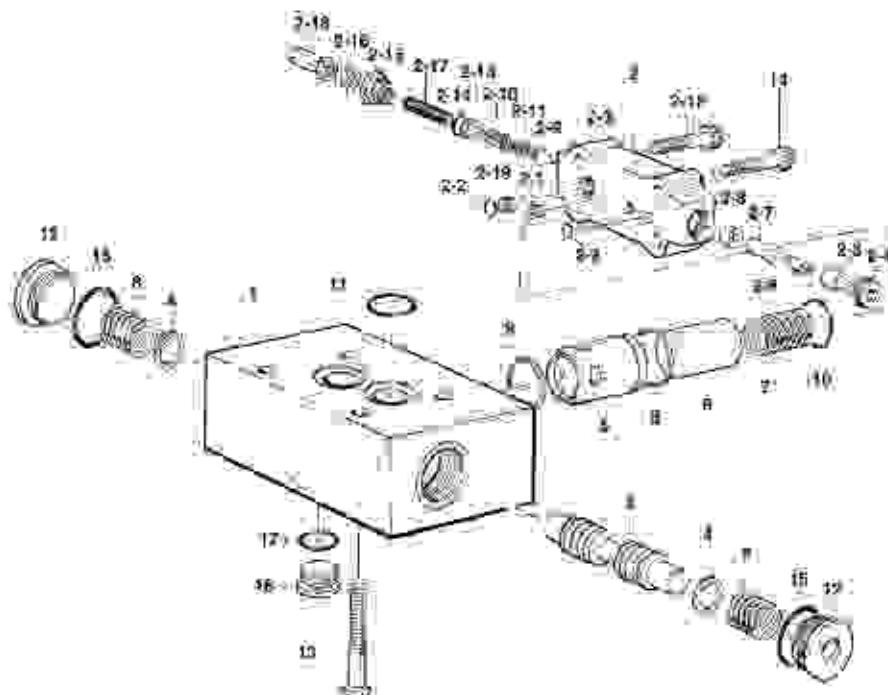

FIGURE 11 EXPLODED VIEW OF SHUTTLE VALVE
See figure 11: Insert seal (12-6) into cup (29) and seat it bottom of bore.
See figure 11: Cage spool (3) and insert impulsive body (1). When the spool is fully engaged, make the spool body turn left a few times (counter clockwise open/close). Spool must move freely in body bore.
PARTS LIST FOR FIGURE 11, S23-11B66
PARTS LIST FOR FIGURE 11, S23-11B66 ITEM 2